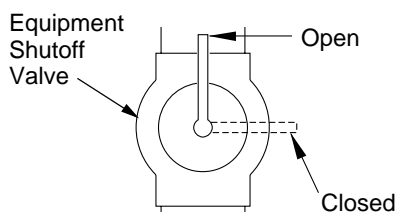

Figure 18 - Equipment Shutoff Valve
1. Close equipment shutoff valve (see Figure 18, page 14).
1. Open equipment shutoff valve (see Figure 18).